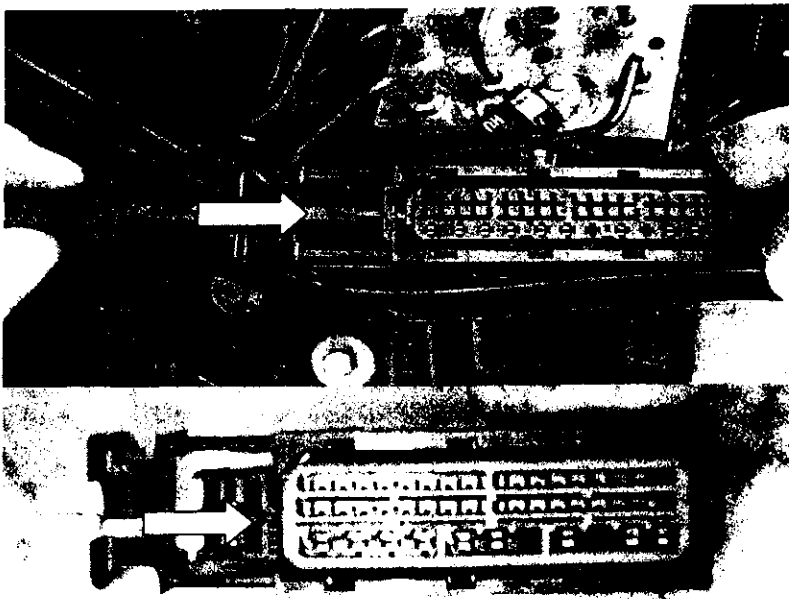

Figure 9: Closing the secondary lock
12. Close the gray secondary lock of the SBC connector housing. To do this, slide the gray secondary lock in the direction indicated by the arrow using a small screwdriver (Figure 9).